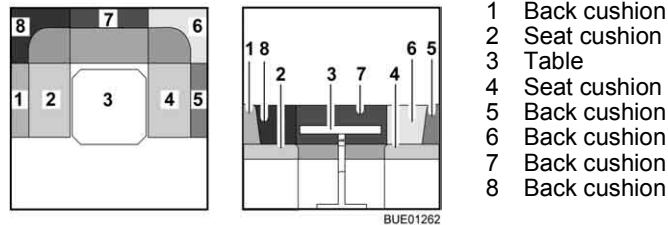

Fig. 75 Prior to conversion
- Convert the table (Fig. 75,3) to a bed foundation (see section 6.11).